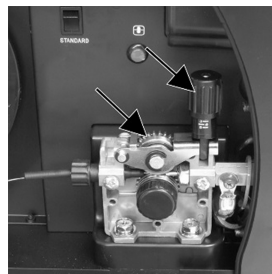

Figure 15.
7. Lock down the top pressure roller and apply a medium amount of pressure using the tension adjustment knob (Fig. 15).